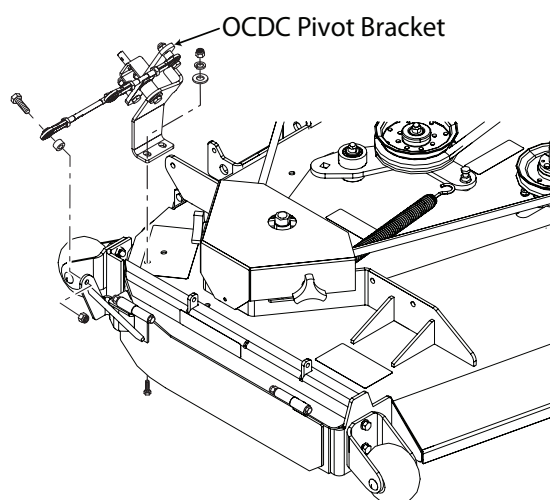

**Figure 3-23. Block Off Plate Weldment Installation**
17. Install the block off plate weldment to the front and rear hinge brackets using two (2) 5/16-18 x 3-1/2" bolts and two (2) 5/16-18 elastic stop nuts. See Figure 3-23. Do not tighten the bolts completely. Secure the hardware so the block off plate weldment moves freely.